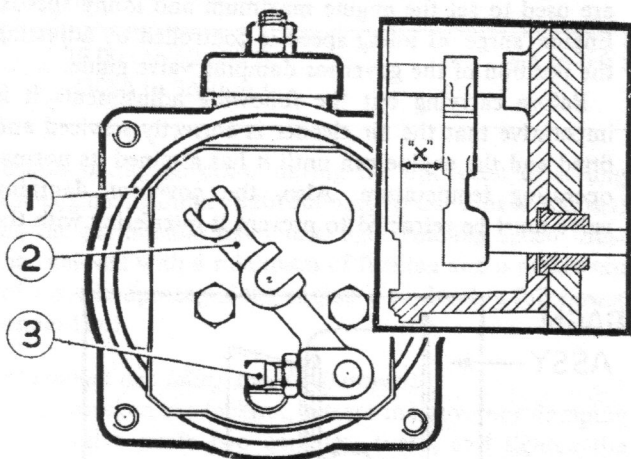

Fig. DD.9
**NOTE.**—The control rod setting position is the distance from the centre face of the governor transverse link to the joint face of the governor front half, i.e. the distance (x) in Fig. DD.9.